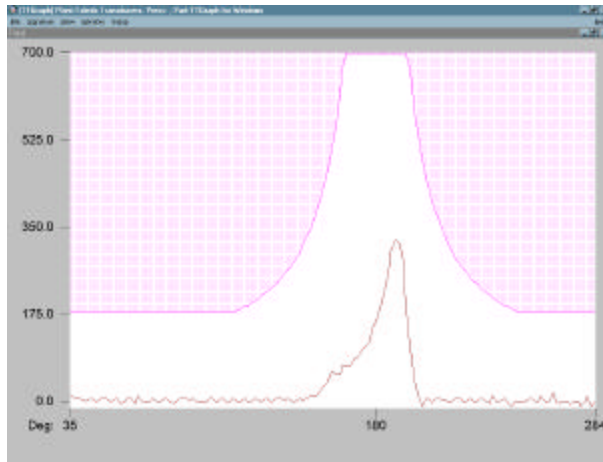

Figure 14: Signature in Inner view.
1. Choose View on the menu bar then choose Inner to view only the Inner ram signature(s). (See Fig. 14).